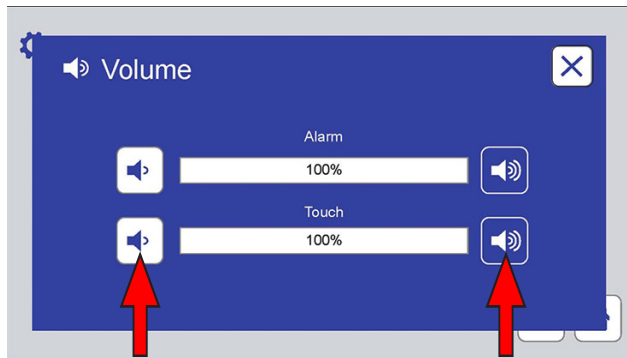
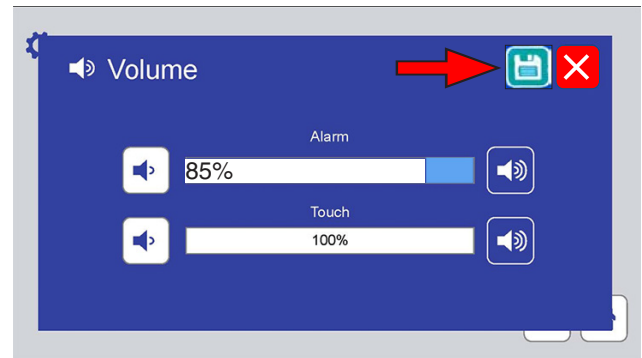

Figure 10.7c: The Volume screen provides controls to set volume (0 to 100) for machine alarms and for the screen touch indicator. Touch a volume icon to adjust.
Figure 10.7d: If a volume is changed, touch the save icon to save the new volume level.
- o Volume (Figure 10.7c and Figure 10.7d).